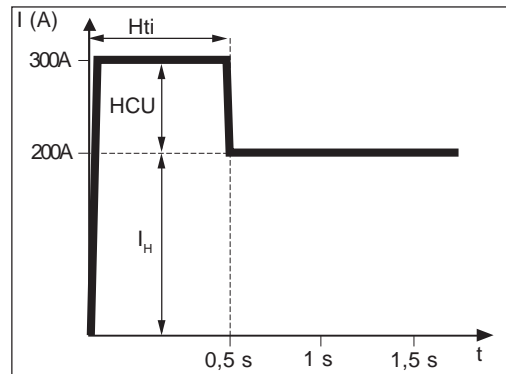

Fig. 25 Example for the "Hot-Start" function
If the "con" parameter has been set, the welding current is kept constant, regardless of the welding voltage. The result is a vertical characteristic (4) (Fig.25).
Parameter "0.1-20" is used for setting a falling characteristic (5) (Fig.25). The setting range extends from 0.1 A / V (very steep) to 20 A / V (very shallow).
**NOTE!** When setting a shallow characteristic (5), set the arc force to a higher value.
If the parameter “P” has been set, the welding power is kept constant, regardless of the welding voltage and welding current. The result is a hyperbolic characteristic (6) (Fig.25).